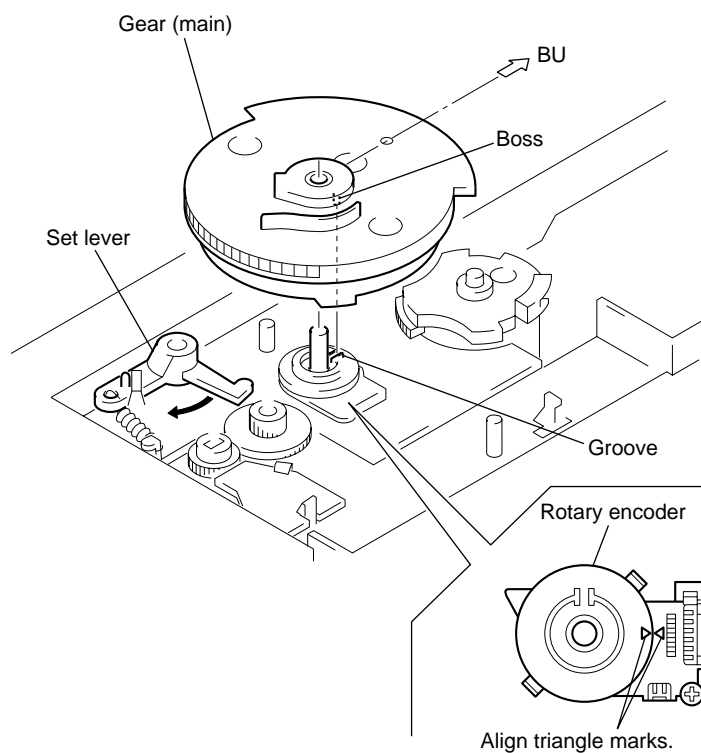

Fig. 4
- 3) Align triangle marks of the rotary encoder. (See Fig. 4.)
- 4) Escape the set lever. (See Fig. 4.)
- 5) Connect the boss of the gear (main) with the groove of the rotary encoder and mount the gear (main). (See Fig. 4.)